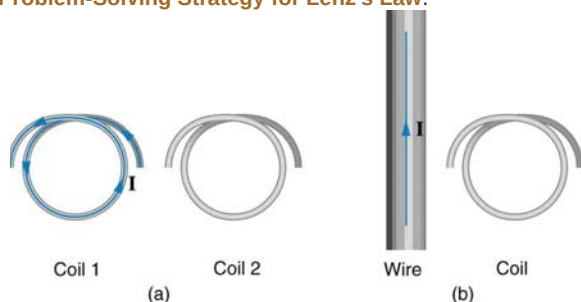

Figure 23.57 (a) The coils lie in the same plane. (b) The wire is in the plane of the coil
3. Referring to **Figure 23.57**(a), what is the direction of the current induced in coil 2: (a) If the current in coil 1 increases? (b) If the current in coil 1 decreases? (c) If the current in coil 1 is constant? Explicitly show how you follow the steps in the **Problem-Solving Strategy for Lenz's Law**.
4. Referring to **Figure 23.57**(b), what is the direction of the current induced in the coil: (a) If the current in the wire increases? (b) If the current in the wire decreases? (c) If the current in the wire suddenly changes direction? Explicitly show how you follow the steps in the **Problem-Solving Strategy for Lenz's Law**.
Approximately how does the emf induced in the loop in **Figure 23.57**(b) depend on the distance of the center of the loop from the wire?
(a) A lightning bolt produces a rapidly varying magnetic field. If the bolt strikes the earth vertically and acts like a current in a long straight wire, it will induce a voltage in a loop aligned like that in **Figure 23.57**(b). What voltage is induced in a 1.00 m diameter loop 50.0 m from a 2.00×10^6 A lightning strike, if the current falls to zero in $25.0 \mu\text{s}$? (b) Discuss circumstances under which such a voltage would produce noticeable consequences.